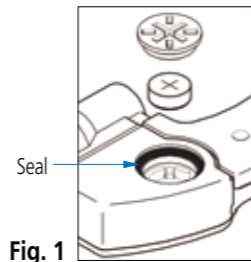

Fig. 1
5. When tightening the output connector cover and battery cap, be careful not to let the rubber seal get trapped by the cap or cover. (Fig. 1)